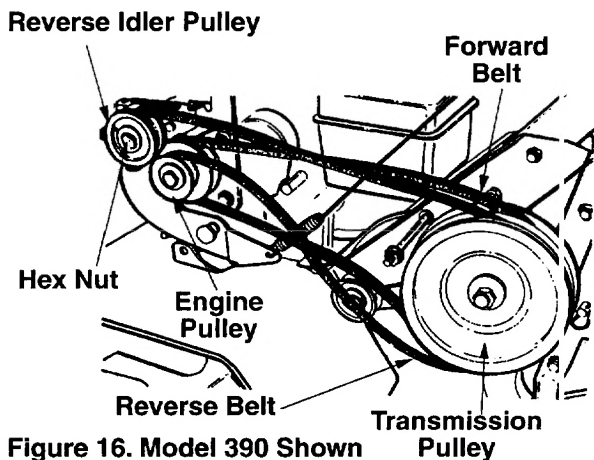

Figure 16. Model 390 Shown
5. Remove the hex nut which secures the reverse idler pulley to the idler bracket. Slide idler pulley out and remove the belt. (See Figure 16)
### Forward Drive Belt (See Figure 16)